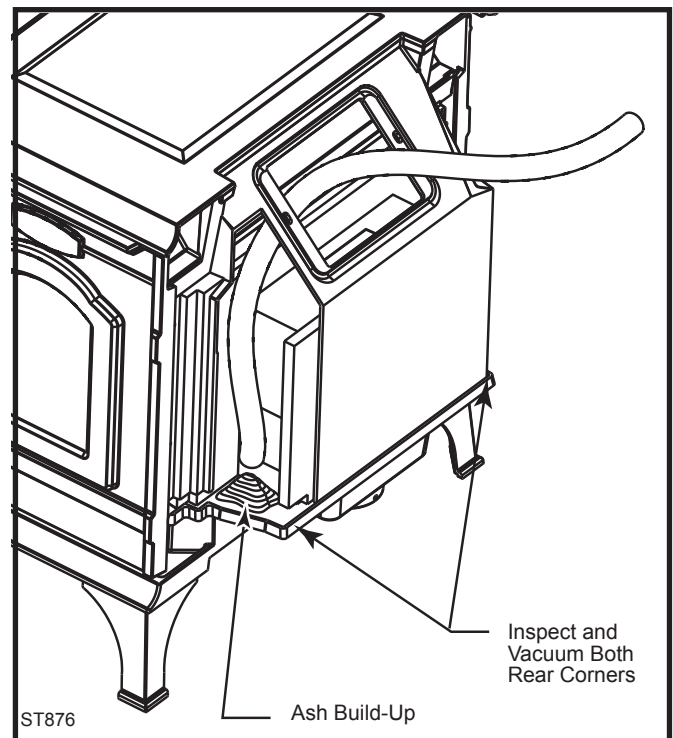

Fig. 30 Inspect and clean out ash accumulation on either side of the non-catalytic combustion system.
- Inspect for and remove ash build-up behind the combustion package. This should be done in conjunction with annual cleaning of the chimney connector since this inspection is most conveniently done through the flue collar opening. Inspect the passages to either side of the combustion package (a mirror will be helpful) and vacuum away ash using a flexible vacuum hose inserted into each passage. Care should be taken not to damage the white fibrous material in this rear chamber. (Fig. 30)